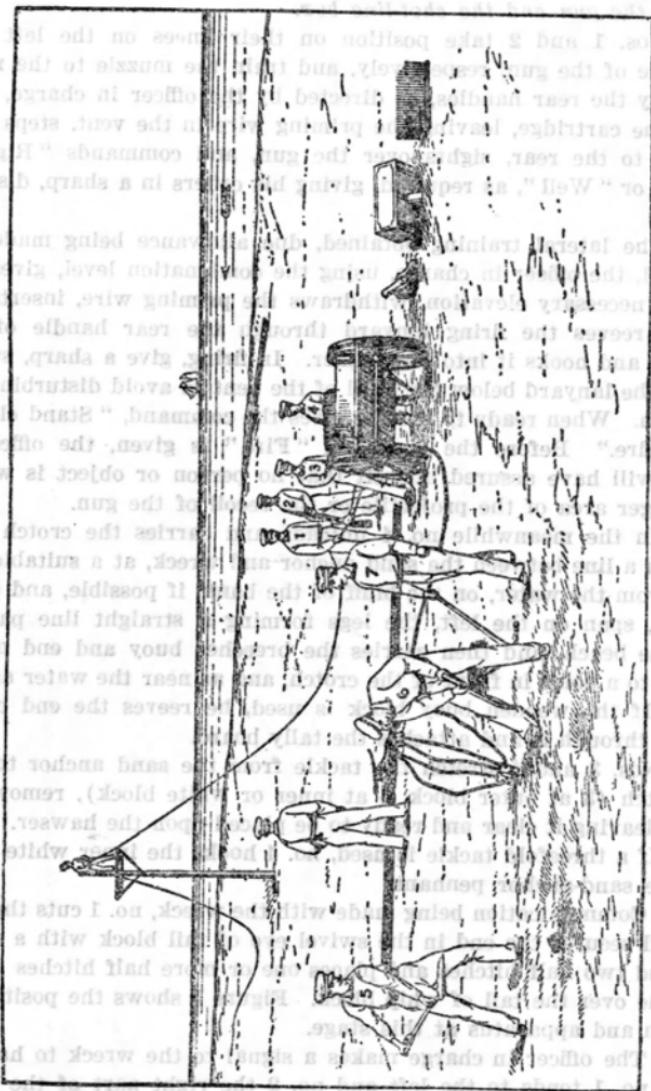

FIGURE 5.—Positions when shot line is bent to whip.
(5) Nos. 1 and 2 take position on their knees on the left and right side of the gun, respectively, and train the muzzle to the right or left by the rear handles, as directed by the officer in charge, who pricks the cartridge, leaving the priming wire in the vent, steps 2 or 3 yards to the rear, sights over the gun, and commands "Right", "Left", or "Well", as required, giving his orders in a sharp, distinct tone.
(6) The lateral training obtained, due allowance being made for the wind, the officer in charge, using the combination level, gives the gun the necessary elevation, withdraws the priming wire, inserts the primer, reeves the firing lanyard through the rear handle of the carriage and hooks it into the primer. In firing, give a sharp, strong pull of the lanyard below the level of the vent to avoid disturbing the elevation. When ready to fire, he gives the command, "Stand clear—ready—fire." Before the command "Fire" is given, the officer in charge will have assured himself that no person or object is within the danger area of the projectile or the recoil of the gun.
(7) In the meanwhile no. 4 unloads and carries the crotch to a point on a line between the sand anchor and wreck, at a suitable distance from the water, on the bluff of the bank, if possible, and opens it wide, span on the left, the legs forming a straight line parallel with the beach, and then carries the breeches buoy and end of the hawser to a point in front of the crotch, and as near the water as possible. If the wooden buoy block is used, he reeves the end of the hawser through it and attaches the tally board.
(8) Nos. 3 and 4 stretch the tackle from the sand anchor toward the crotch (3 at outer block, 4 at inner or white block), remove the straps, leaving it clear and ready to be placed upon the hawser.
(9) If a threefold tackle is used, no. 4 hooks the inner white block into the sand-anchor pennant.
(10) Communication being made with the wreck, no. 1 cuts the shot line and secures the end in the swivel eye of tail block with a round turn and two half hitches and places one or more half hitches of the shot line over the tail of whip block. Figure 5 shows the position of the men and apparatus at this stage.